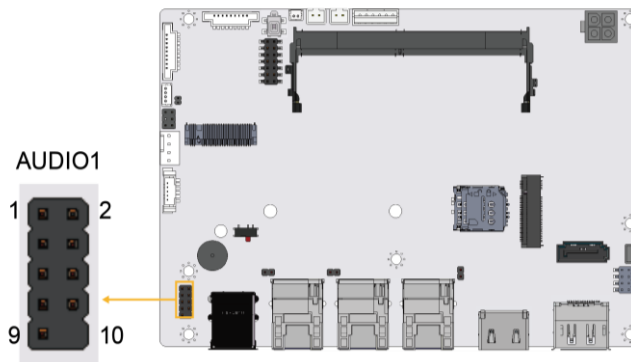

Figure 3-34: Audio Connector Location
- CN Location:** See **Figure 3-34**